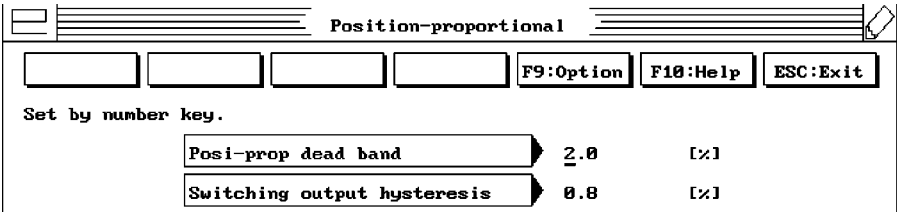

Figure 10
- 2. Select **Posi-prop dead band** Figure 10. Insert a dead band between the OPEN and CLOSE action of the valve. The default value is 2%.